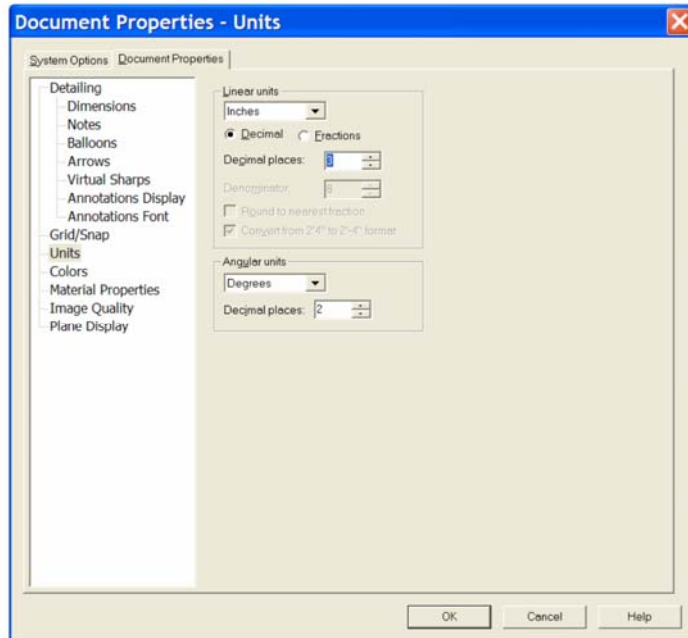

Figure 1
1. Open a **'New Part'** file and set the **units** to inches, decimal and three places. See Figure 1.